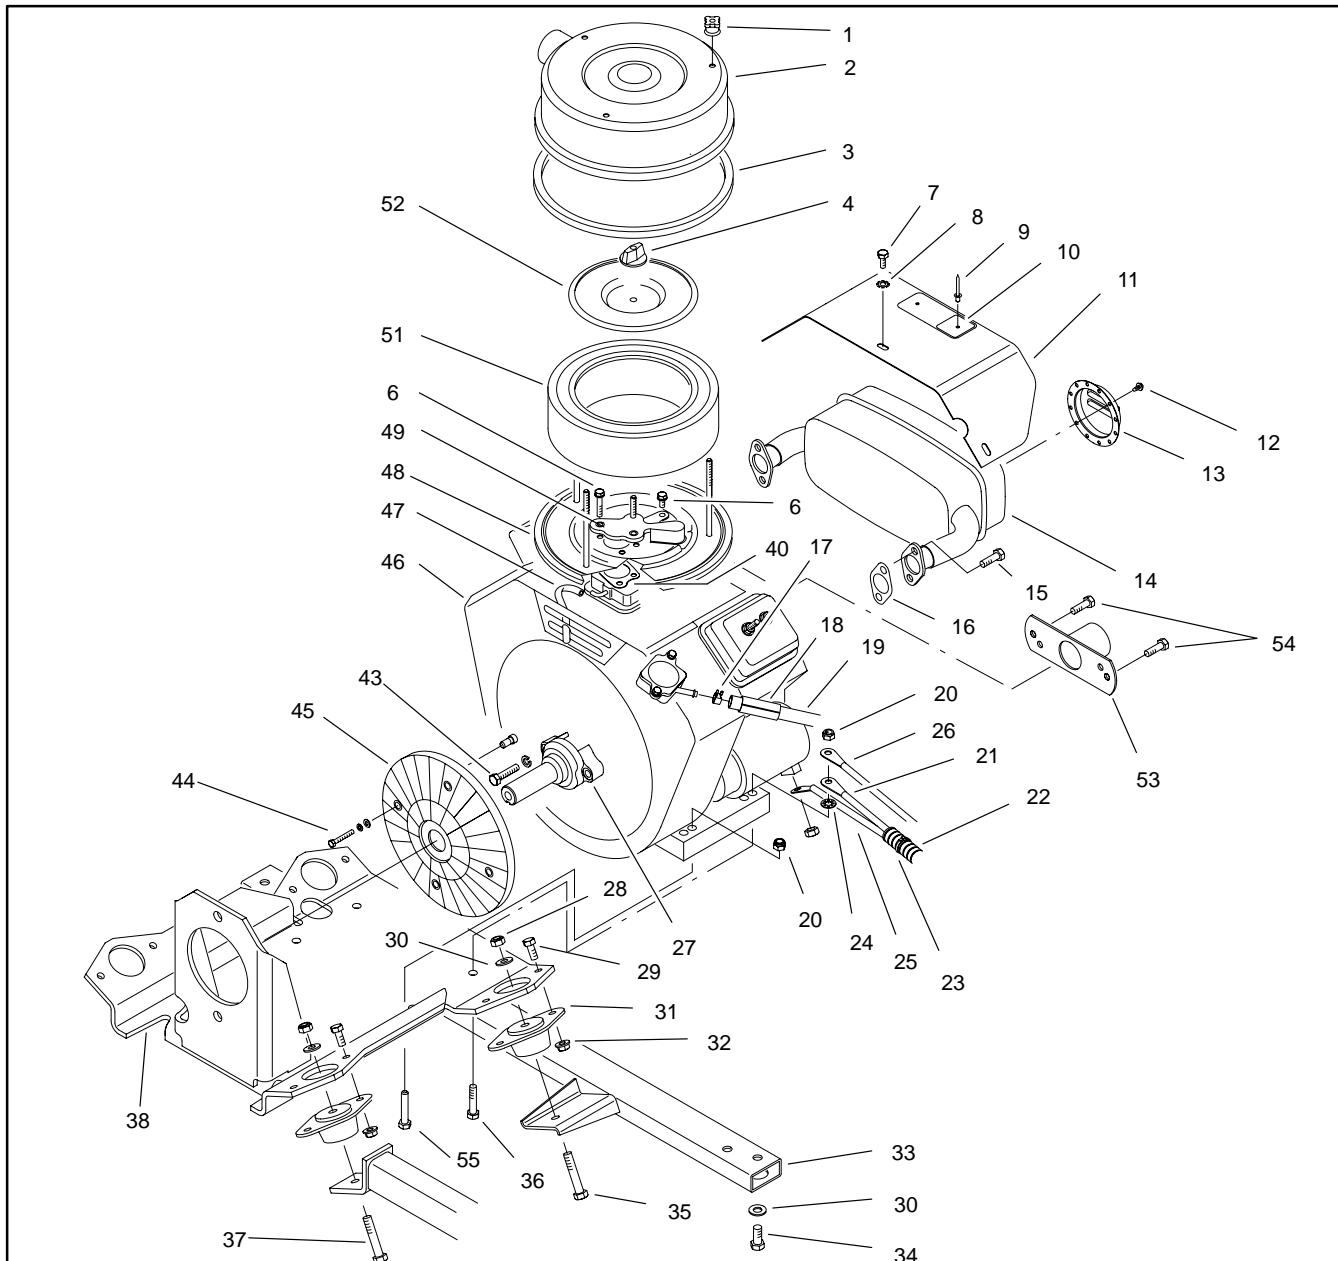

Figure 43
Engine Removal (Fig. 43)
13. Remove engine as follows (Fig. 43 and 48):
Engine Installation (Fig. 43)
1. Install engine to its base as follows (Fig. 43 and 48):